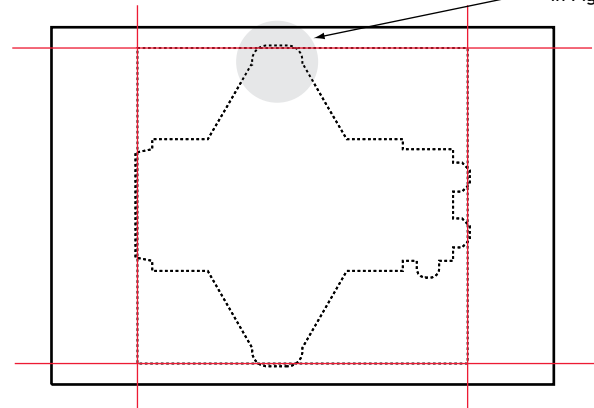

Fig. 1
1. Guillotine 2mm inside the perforated edges of the Desk Tidy as indicated in Fig.1 & 2